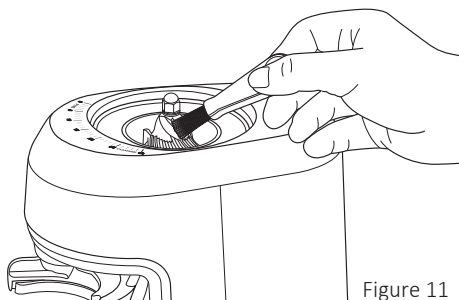

Figure 11
6. Clean the grind cartridge and bottom burr using the burr cleaning brush (located under the grind spill tray), see figure 11.